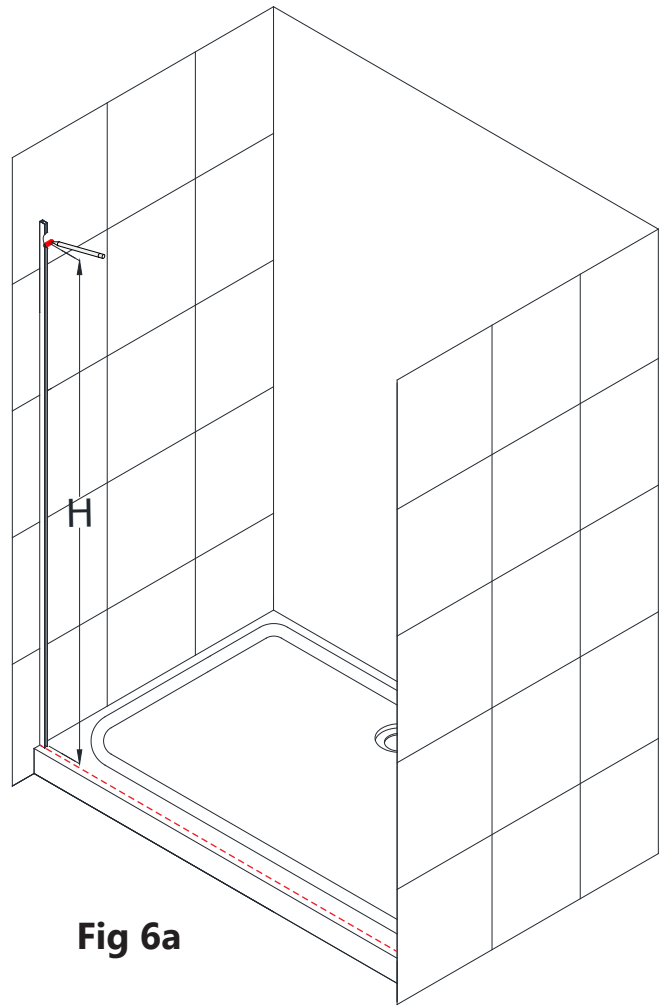
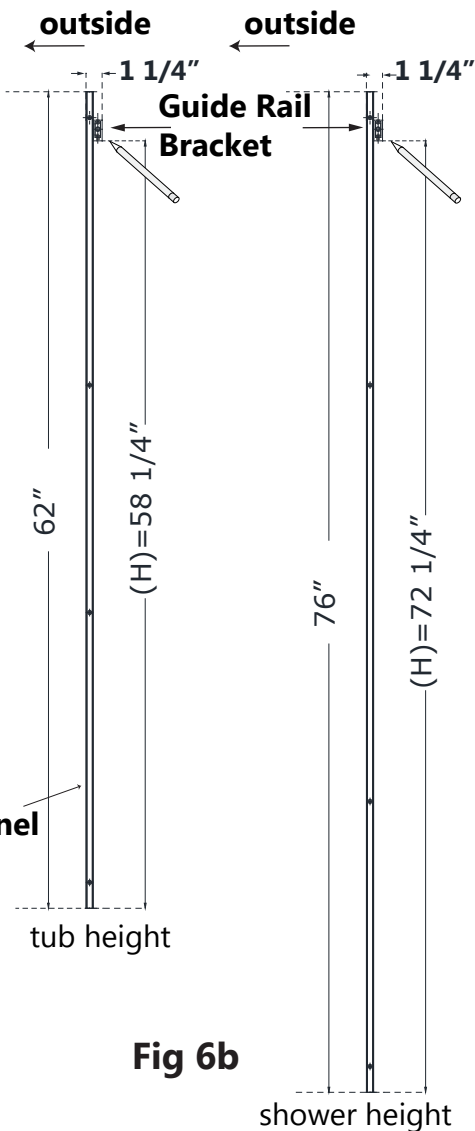

Fig 6a
Fig 6b
6. To position the **Guide Rail Brackets (#06)**: From the inside of the shower, measure up from the threshold to the mark the bottom of the **Guide Rail Bracket (#06)** using **Table 1** below. While holding the bracket against the edge of the installed **U-Channel (#01)**, mark the wall at the bottom of the bracket to the correct installation height. (**Fig 6a and Fig 6b**)